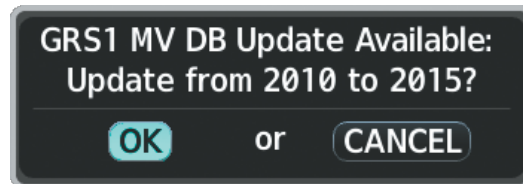
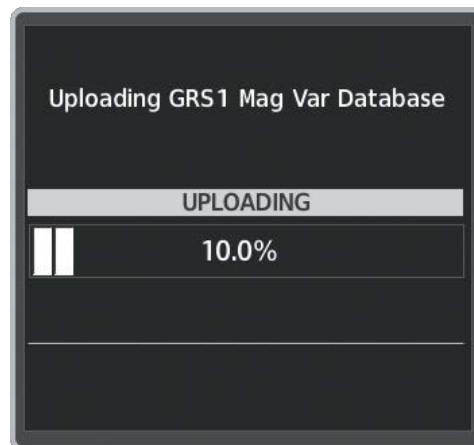

Figure B-8 GRS1 Magnetic Field Variation Database Update Prompt
Figure B-9 Uploading Database to GRS1
A copy of the current magnetic field variation database (MV DB) is included with the navigation database. At startup, the system compares this version of the MV DB with that presently being used by each AHRS (GRS1 and GRS2). If the system determines the MV DB needs to be updated, a prompt is displayed on the MFD, as shown in Figure B-8. Note, in the following example, GRS1 is the first AHRS to indicate an update is available. In actuality, this is dependent on which AHRS is the first to report status to the system. GRS2 may be displayed before GRS1. The order is not important, only that both AHRS be updated.
- 1) With 'OK' highlighted, as seen in Figure B-8, press the **ENT** Key on the MFD. A progress monitor is displayed as shown in Figure B-9.